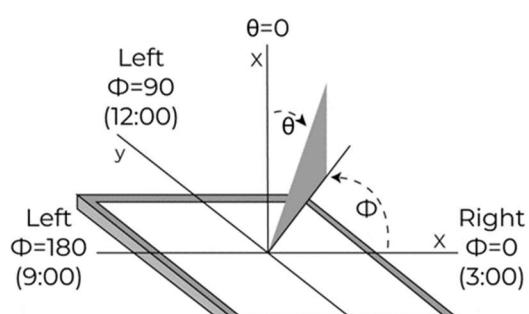

Figure 3. The definition of viewing angle
| Viewing Angle Range     | $\theta$          | $\phi = 90^\circ$                              | 80   | 85   | -    | deg               | FIG 3.           | 6    |
**Note 6.** For TFT module the contrast ratio is greater than 10. The angles are determined for the horizontal or x axis and the vertical or y axis with respect to the z axis which is normal to LCD surface. For more information see Figure 3.